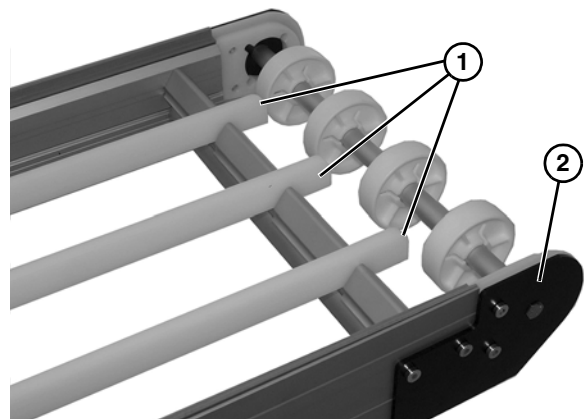

Figure 34
The rounded ends of top wear strips (**Figure 34, item 1**) faces the idler end (**Figure 34, item 2**) of the conveyor.